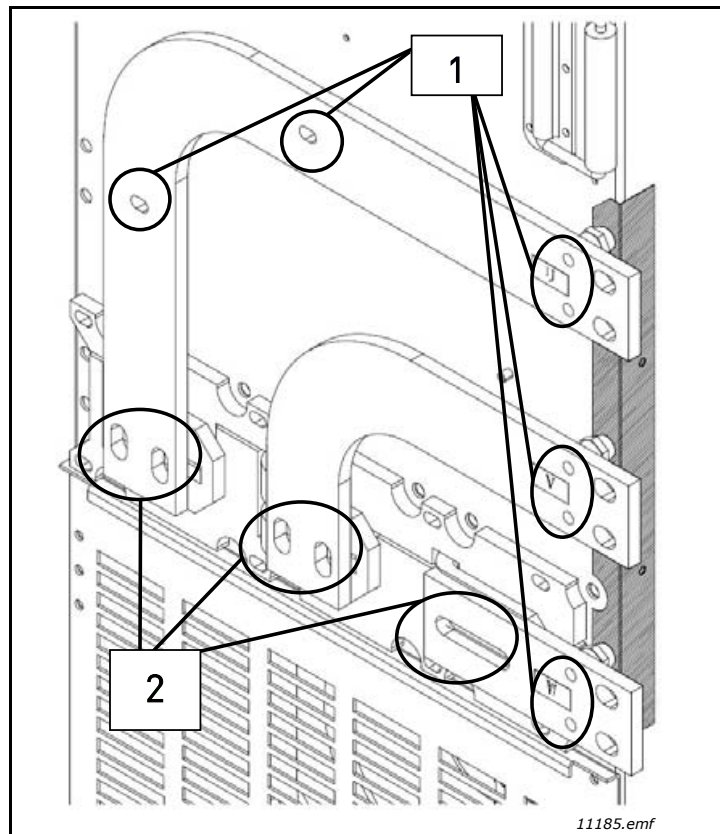

Figure 34. Right-side connection
1. Open fastenings numbered by 1 in Figure 34.
2. Open fastenings numbered by 2 in Figure 34.